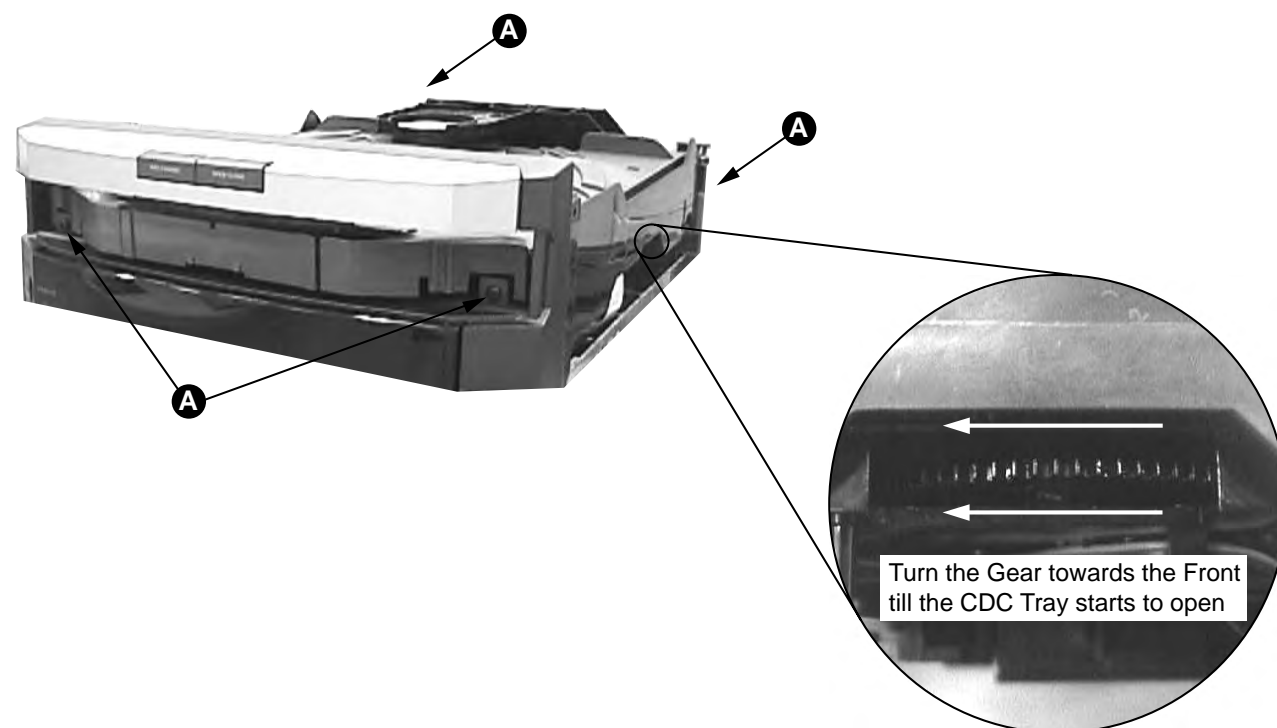

Figure 3
- 5) Loosen 4 screws A to remove the CDC Module (pos 1105) as shown in figure 3.